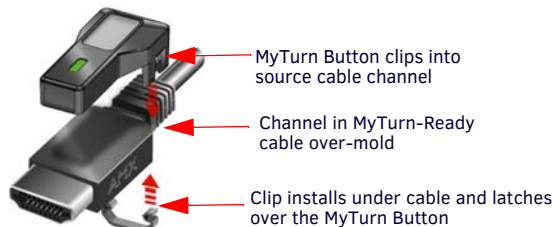

FIG. 7 MYTURN-READY SOURCE SELECTOR BUTTON CLIPPING ONTO CABLE END
1. At the source end of the cable, clip the MyTurn Source Selector Button onto the MyTurn-Ready connector over-mold with the LED over the connector end (FIG. 7).